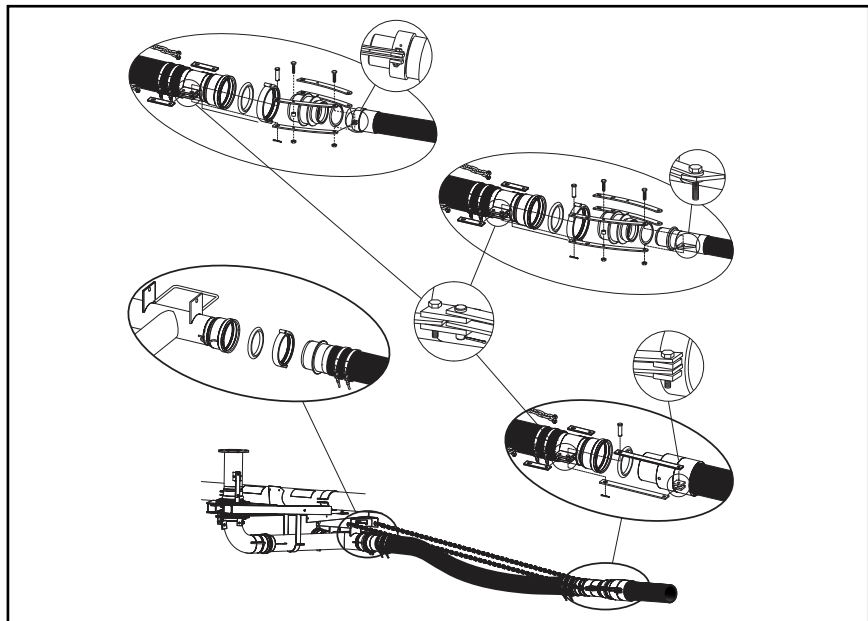

Figure 40-2 Swing-Around Tee Inlet Hose Couplers, Soft hose and Chains
- Swing-Around Tee Inlet hose couplers are secured to the inlet with a circle lock ring. See figure 40-2.
- Soft hose requires the use of chains to pull the poly hose. See figure 40-2.
- The Swing-Around Tee Inlet uses soft hose on the inlet end of the hose. See figure 40-2.